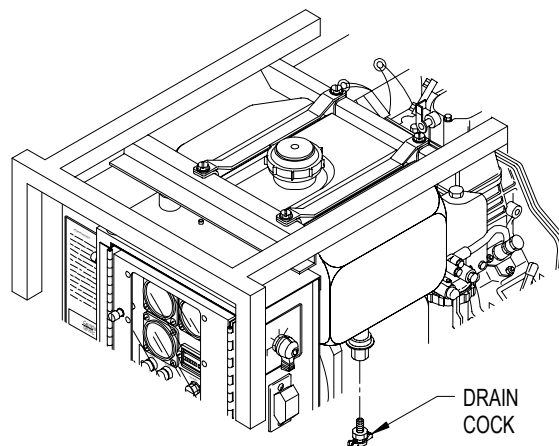

Figure 4-14. Fuel Drain Cock
- (2) If necessary, open fuel tank drain cock (Figure 4-14) and drain fuel into suitable container. Close fuel tank drain cock. Fuel tank capacity is 1.6 gal. (6.1 L).
- (2) Open fuel tank drain cock (Figure 4-14) and drain fuel into suitable container, and close fuel tank drain cock. Fuel tank capacity is 1.6 gal. (6.1 L).
(2) Open fuel tank drain cock (Figure 4-14), drain fuel into suitable container. Fuel tank capacity is 1.6 gal. (6.1 L).
(3) Remove drain cock.
(1) Apply sealing compound (Item 20, Appendix E) to threads of drain cock and adapter.
(2) Install drain cock (Figure 4-14).
(3) Fill fuel tank with diesel fuel (DL-1, DL-2, or JP-8).
(4) Prime and bleed the fuel system, refer to paragraph 2.7.c.